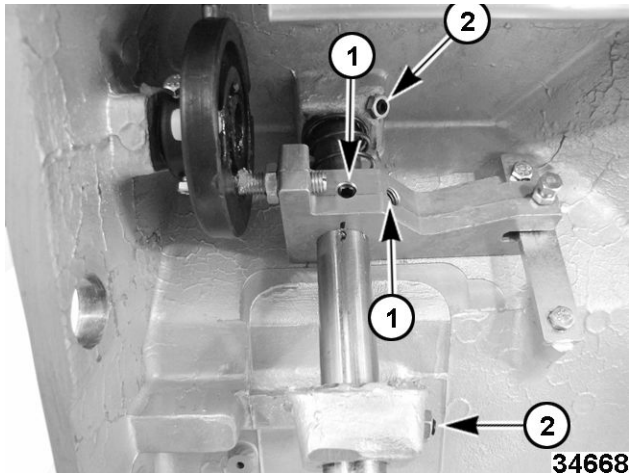

Fig. 30
6. Loosen 4 gauge plate support pin set screws (1, 2 Fig. 30).